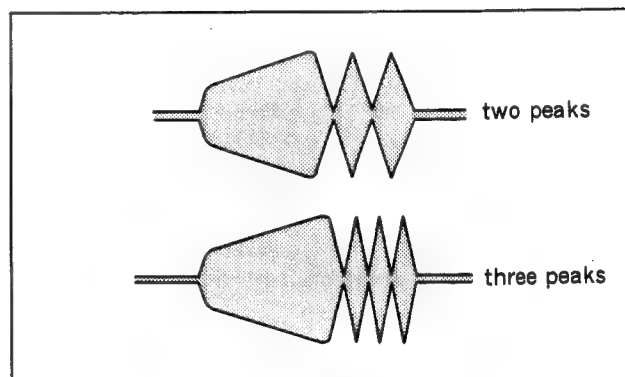

Fig. 6-3-2 Specified wave shape
3. Execute the tape free running adjustments until wave shape meets the specifications. (See Fig.6-3-2.)
- 2) When the wave shape in Fig.6-3-2 has two peaks or less, rotate the height adjusting screw of Guide No. 5 in clockwise direction. It causes raising the height of Guide No.5.